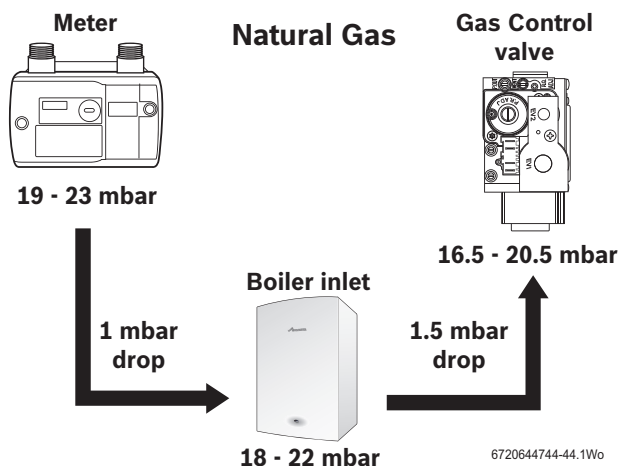
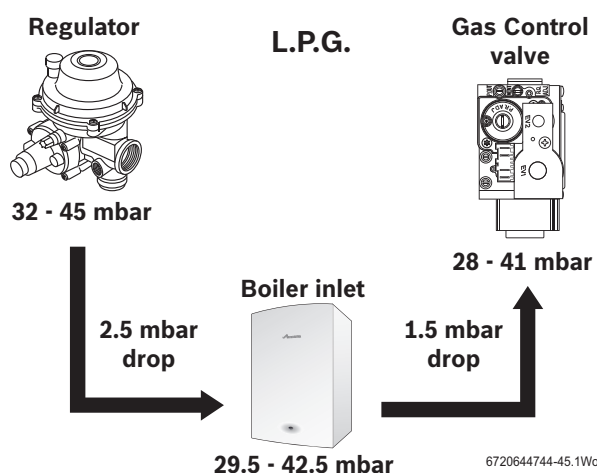

Fig. 44 Natural gas pressures
Fig. 45 L.P.G. pressures
- Press Performance test button (J) for more than ten seconds and set Central Heating temperature to maximum.
- The Performance test button (J) will illuminate continually and the display (C) will alternate between \square and the central heating flow temperature.
- Check the gas supply working pressure at the gas valve conforms to values shown in Fig. 44 or Fig. 45.
If the pressure drops are greater than shown in fig. 44, this indicates a problem with the pipe work or connections within the system.
If the pressure drops are greater than shown in figure 45, then this would indicate a problem with the pipe work or connections within the system.